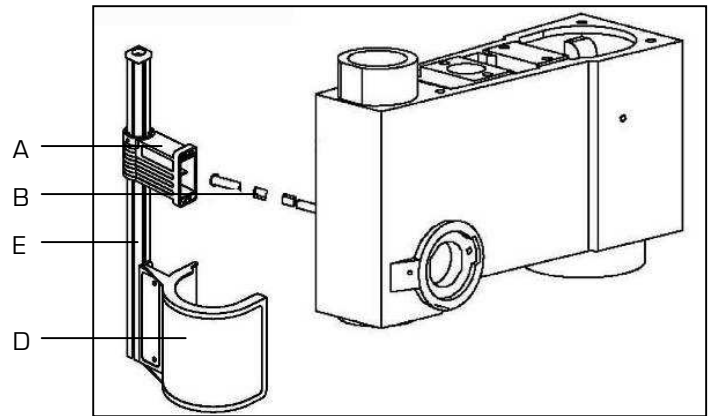

Figure 3
1.  Check the good tightening of the electrical connections of the protective shield (A) and of the electrical connections coming out of the head of the drilling machine (B).
2. Connect the support of the protective shield (A) to electrical terminals (B) located on the head of the drilling machine.
3.  Set the tightening knob (C), located on the support of the protective shield (A) by turning it upwards (see fig.3).
4. Fit the protective shield (D) on the shaft of the shield support (E) using two screws.
5. Fit the assembly into the support of the protective shield (A).
6. Position the shaft (E) and tighten the knob (C).
7. To operate the drilling machine, adjust precisely the protective shield of the chuck, the shaft being in its closed position (a safety micro switch ensures the closing) and tighten the knob (C).